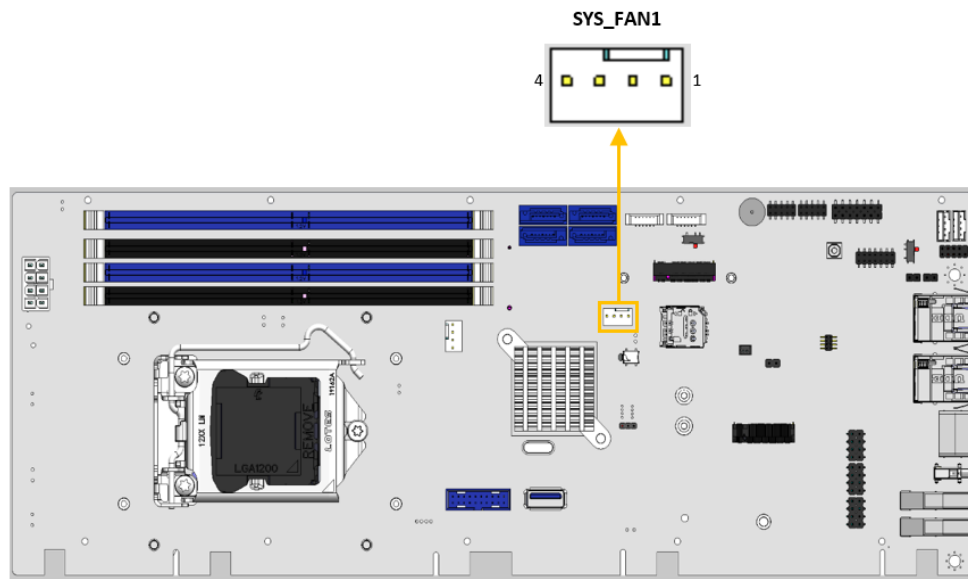

Figure 3-8: System Fan Connector Location
- CN Location:** See Figure 3-8